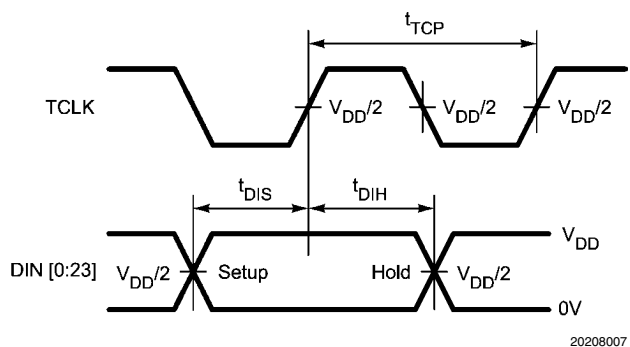

FIGURE 5. Serializer Setup/Hold Times
**Note 11:** Figure 5 Figure 15 show a rising edge data strobe (TCLK IN/RCLK OUT).